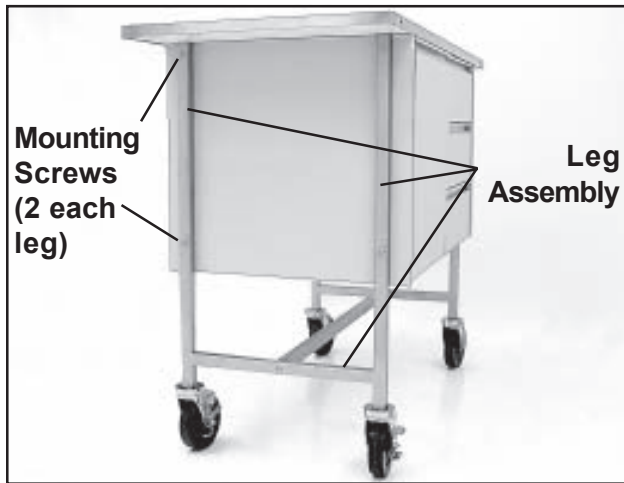

Figure 32. Leg Assembly
5. With a flat-blade screwdriver, remove the four leg assembly mounting screws (Figure 32), and remove the assembly from the table.